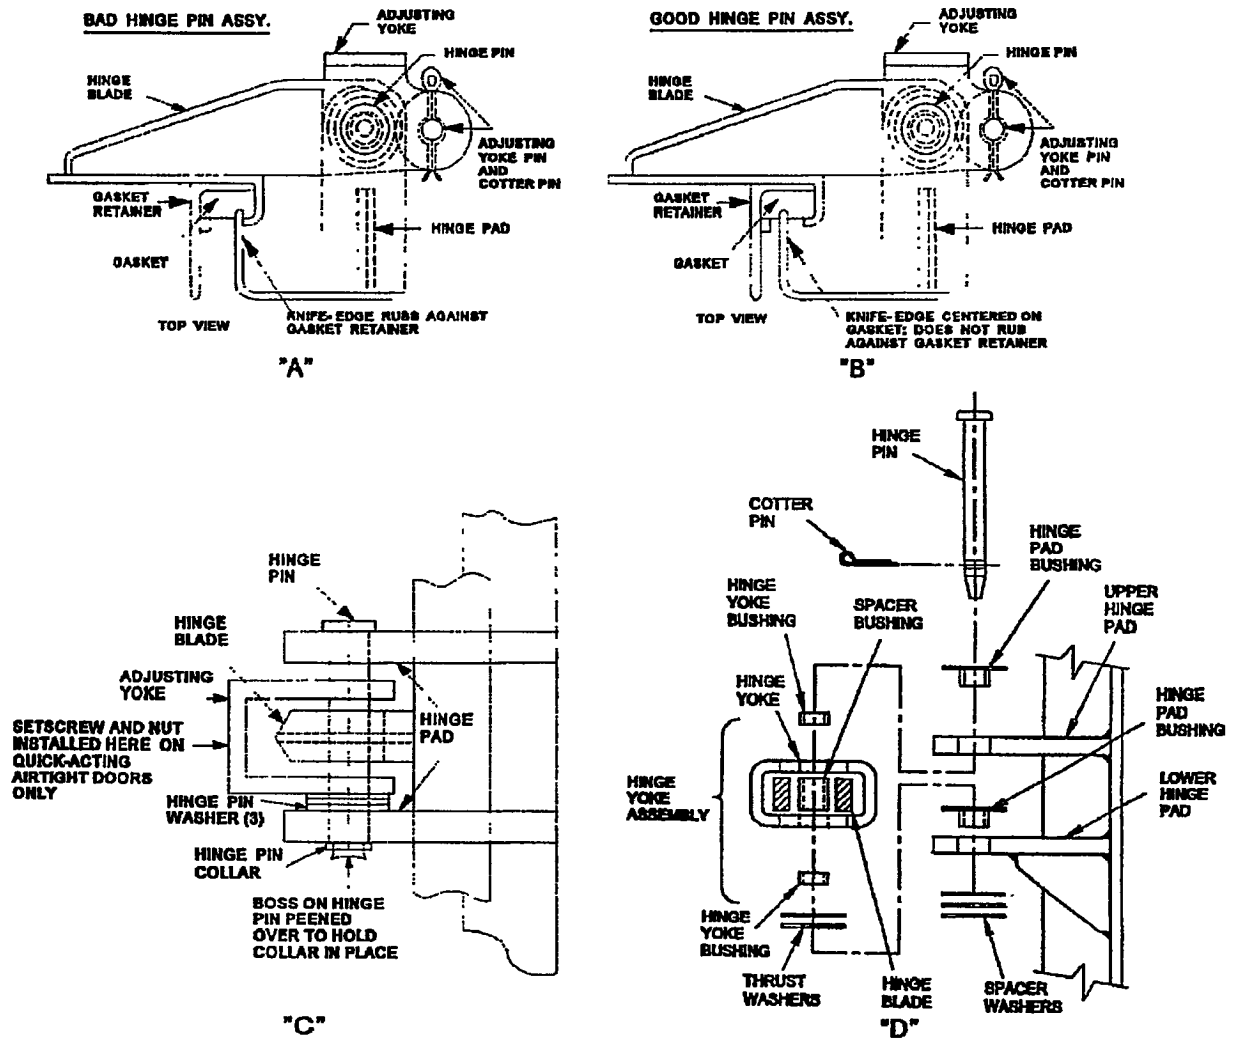

Figure 600-2.21. Hinge Pin Assemblies
600-2.3.2.6 Hinge Inspection. Visually inspect the hinge sleeves and hinge pins (on doors without Machinery Alteration (MACHALT) 167-31006 Engineering Change Proposal (ECP) 518 installed) for wear. Visually inspect the hinge pad bushings, hinge yoke bushings, spacer bushing, and hinge pin (on doors with MACHALT 167-31006 (ECP-518) installed) for wear. With the door opened, grasp the door from the hand lever side and push it toward the hinged side. The door should not give more than approximately 3/16 inch. If it does, either the hinge pins and/or washers are worn, or the holes for the hinge pins have become enlarged. Do not confuse hinge pin wear with normal play in the hinge blades. Another indication of hinge pin wear is if the metal channel surrounding the gasket on the door side is rubbing against the knife-edge, or if the door panel rubs one or more side dogs when opening or closing. (See figure 600-2.21, "A".) A good hinge and alignment are illustrated in figure 600-2.21, "B". Replace the hinge pin washers and/or pins (on doors without MACHALT 167-31006 (ECP-518) or MACHALT 167-31011 (ECP-538) installed), or replace the hinge pad bushings, hinge yoke assembly, thrust washers, yoke pin spacer, and hinge pin (on doors with MACHALT 167-31006 (ECP-518) or MACHALT 167-31011 (ECP-538) installed), if any of the following conditions exist:
4. The hinge pin washers (on doors without MACHALT 167-31006 (ECP-518) or MACHALT 167-31011 (ECP-538) installed) are worn thin to approximately 1/32 inch. New washers are 1/16 inch in thickness. See figure 600-2.21, "C". The thrust washers or the flange on the hinge pad bushings (on doors without figure 600-2.21. Hinge Pin Assemblies MACHALT 167-31006 (ECP-518) or MACHALT 167-31011 (ECP-538) installed) are worn thin to approximately 1/32 inch. New thrust washers and the flange on new hinge pad bushings are 1/16 inch in thickness. See figure 600-2.21, "D".